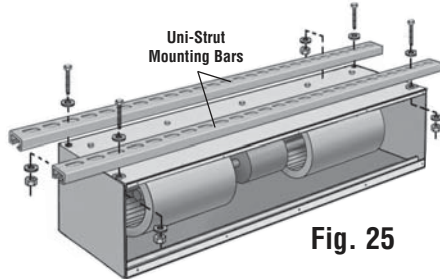

Fig. 25
2. Center the 1⁵/₈" uni-strut mounting bars on the unit and place the bar over the unit's top threaded mounting holes. Note the mounting bar mounting holes should be on the top, the open channel on the bottom. (See Fig. 25) Using (4) four 3/8" x 2 1/4" - (16) sixteen thread bolts and (12) twelve washers, attached each bar to the top of the air curtain.